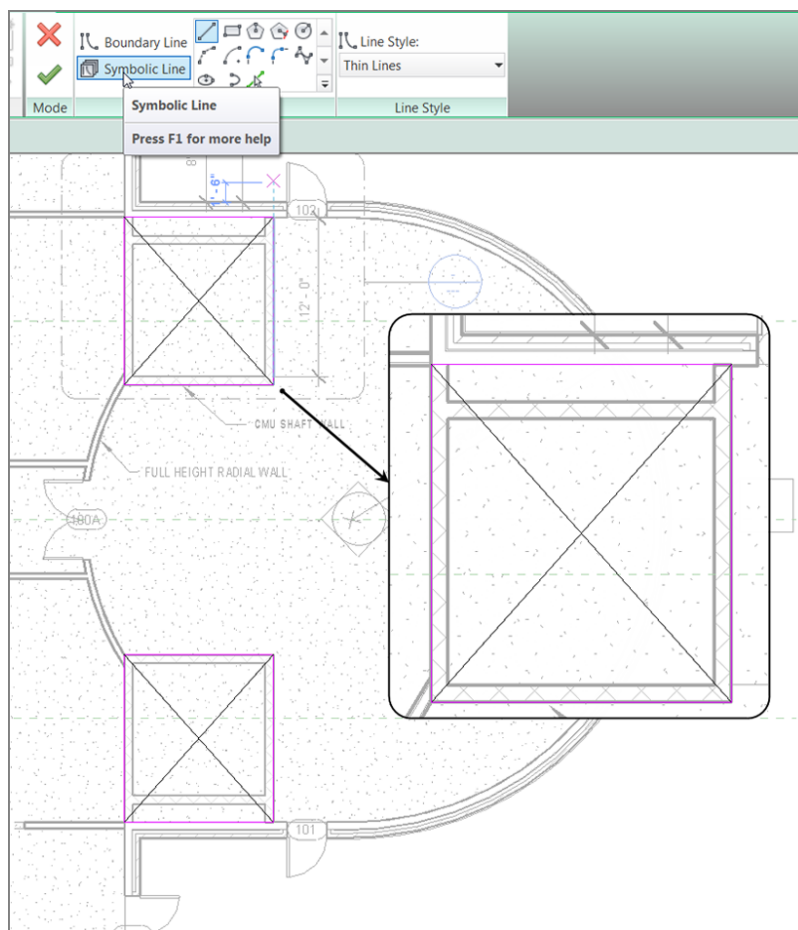

FIGURE 6.58: You can add any “drafting” symbolic lines you deem necessary.
7. Draw an X in both openings, as shown in Figure 6.58.